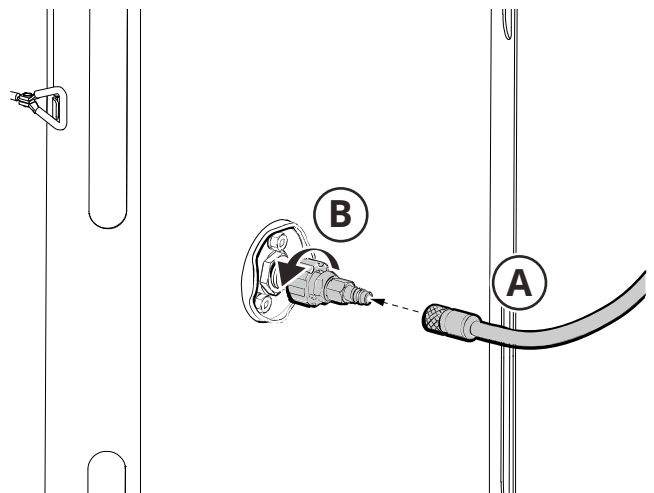

Fig. 20
3. Connect filtered and regulated¹ compressed air to connection (A, **Fig. 20**) on the filter unit.
4. Rotate the blow nozzle (B) until the desired effect is achieved, usually 5-10 turns.